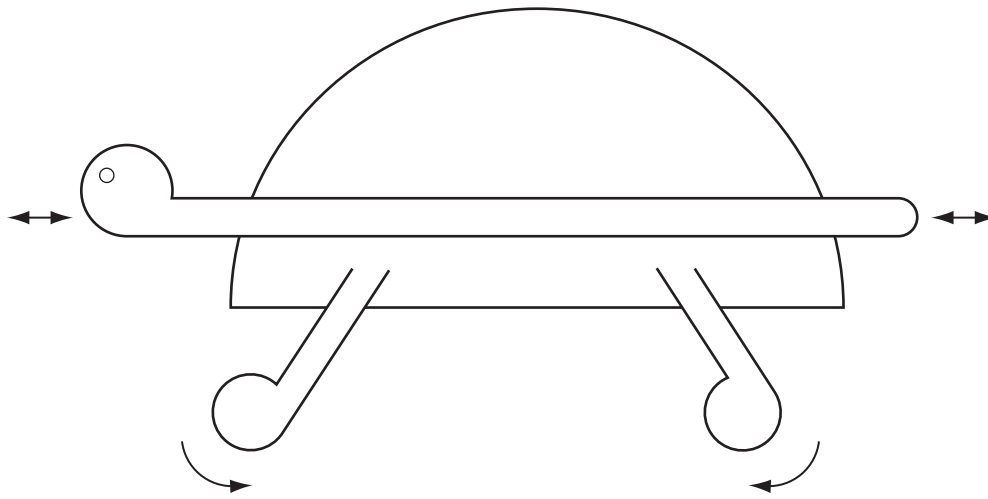

Fig. 8
(c) Fig. 8 shows a similar toy with an incomplete mechanism.
- (i) Add sketches and labels to Fig. 8 to show a suitable mechanism to move the legs as shown. [4]
- (iii) Use sketches and notes to show how the mechanism added to Fig. 8 could be modelled prior to being manufactured. [3]